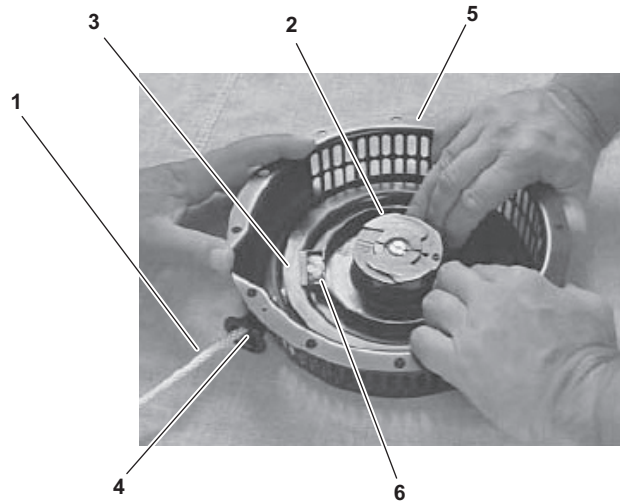
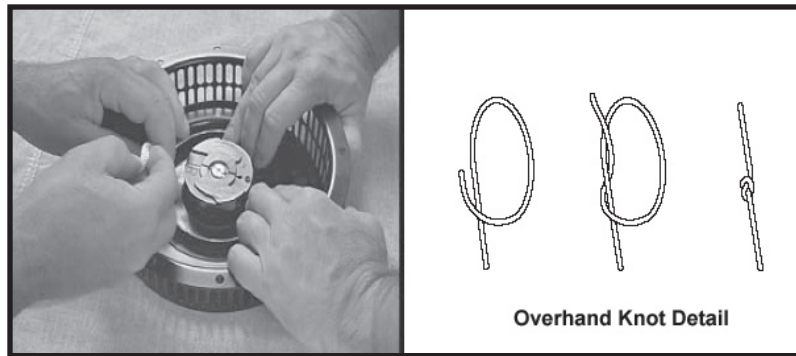
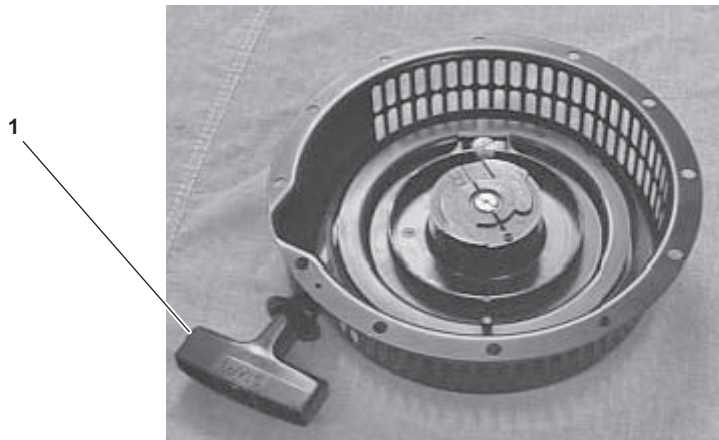

Figure 6-46. Aligning Rope Access
Figure 6-47. Knotting Starter Rope
Figure 6-48. Recoil Replacement Rope
- (5) Pull the starter rope (figure 6-46, item 1) until it is fully extended. Have another person hold the flywheel assembly (figure 6-46, item 2) in place after the starter rope is fully extended.
- (6) Align the flywheel assembly (figure 6-46, item 2) rope access opening (figure 6-46, item 3) with the rope guide (figure 6-46, item 4) in the recoil starter assembly housing (figure 6-46, item 5).
- (7) Remove the damaged starter rope (figure 6-46, item 1) by cutting it or untying the knot (figure 6-46, item 6) in the flywheel assembly (figure 6-46, item 2).
- (1) Feed the loose end of the new starter rope (figure 6-46, item 1) through the rope guide (figure 6-46, item 4) in the recoil starter assembly housing (figure 6-46, item 5) and through the rope access opening (figure 6-46, item 3) in the flywheel assembly (figure 6-46, item 2).
- (2) Tie one overhand knot (see figure 6-47) in the end of the starter rope, leaving a 1/2 inch of rope after the knot. Push the knot and the 1/2 inch of rope into the small rectangular area on the flywheel assembly (figure 6-46, item 2). Ensure that it does not catch after the starter mechanism replacement.
- (3) Pull the starter rope (figure 6-46, item 1) taut so there is no slack between the flywheel assembly (figure 6-46, item 2) and the recoil starter assembly housing (figure 6-46, item 5).
- (4) Slowly allow the spring action to recoil the new starter rope (figure 6-46, item 1) onto the flywheel assembly (figure 6-46, item 2). There should be no slack in the starter rope and the starter rope handle (figure 6-48, item 1) should be snug against the recoil starter assembly housing (figure 6-46, item 5). See figure 6-48.
- (5) If the starter rope handle (figure 6-48, item 1) does not fit snug against the recoil starter assembly housing (figure 6-46, item 5), remove the starter rope (figure 6-46, item 1) and further tighten the flywheel spring by increasing the number of CCW turns prior to installing the new starter rope. Usually one more turn will increase the spring tension sufficiently.
- (8) Slowly pull the starter rope (figure 6-46, item 1) to ensure proper operation.